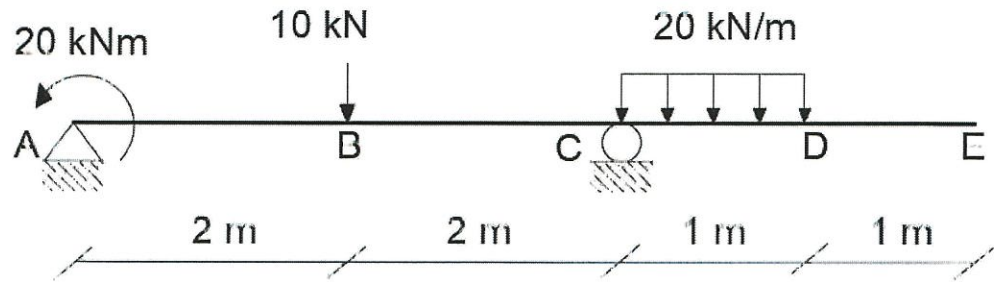

Figure Q2(a)
- Q2 (a) An overhang beam with pinned support at A and roller support at B is subjected to loads as shown in **Figure Q2(a)**. By using Macaulay method determine the followings;